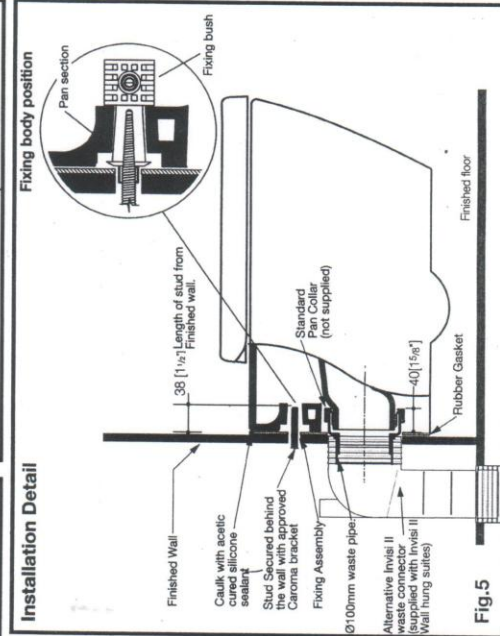

Fig.5
- 3- Set the length of the fixing studs 38mm[1 1/2"] from the finished wall surface, as detailed in Fig. 5.